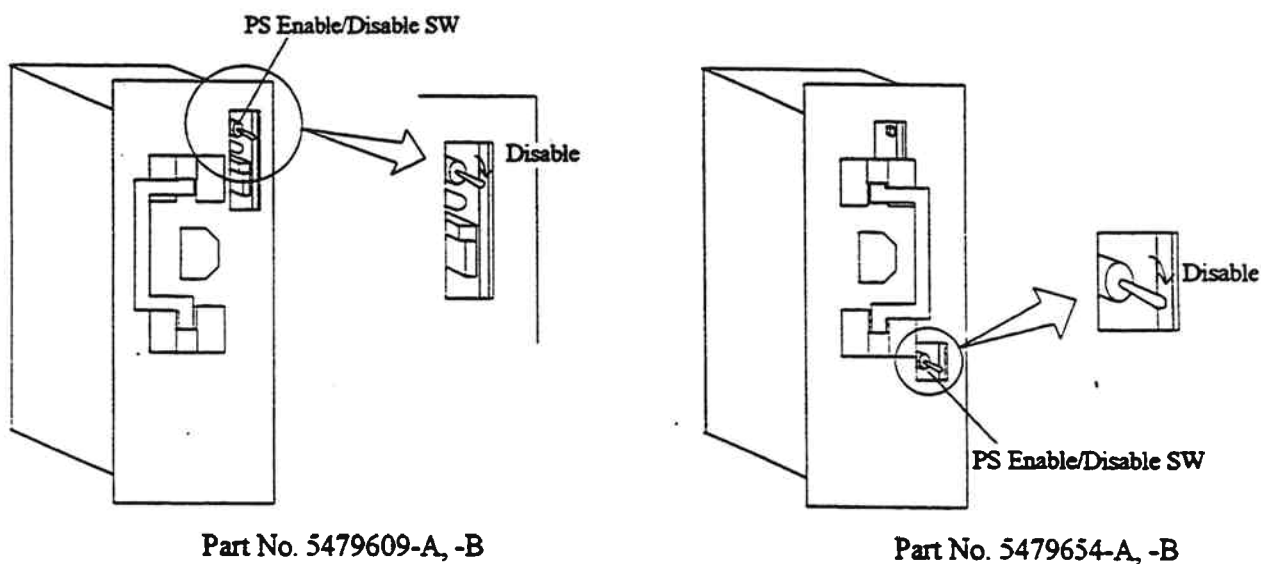

Fig. 3.3.8.4.2-1 Switch
- a. Confirm the PS Enable/Disable Switch is turned to (DOWN) Disable. Refer to Fig. 3.3.8.4.2-1.
- Loosen the screws and remove the dummy plates. Refer to Table 3.3.8.4.2-1, Fig. 3.3.8.4.2-2, and Fig. 3.3.8.4.2-3.
- Install the redundant power supplies in the correct locations. Refer to Table 3.3.8.4.2-1, Fig. 3.3.8.4.2-2, and Fig. 3.3.8.4.2-4.